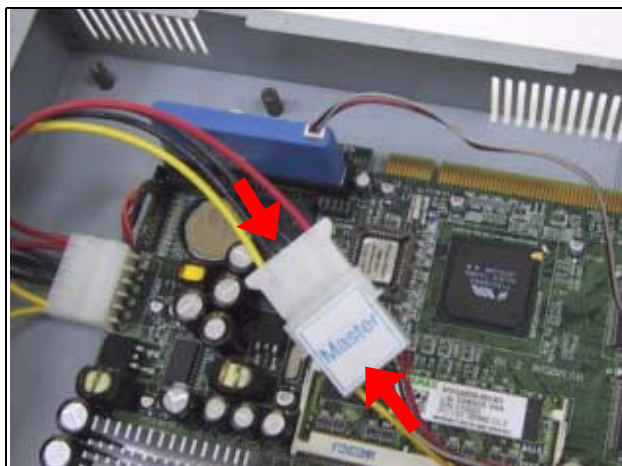

Fig. 2-11 Connect power to DOM
2. Connect the power source to DOM (**Fig. 2-11, 2-12**).